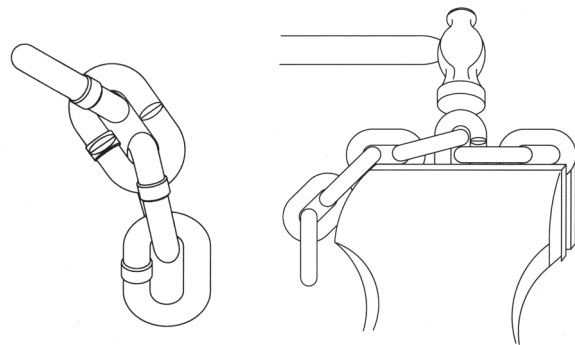

Figure 11. Cutting Chain by Nicking
1. Use a grinder and nick the link on both sides (Figure 11), then secure the link in a vise and break off with a hammer.